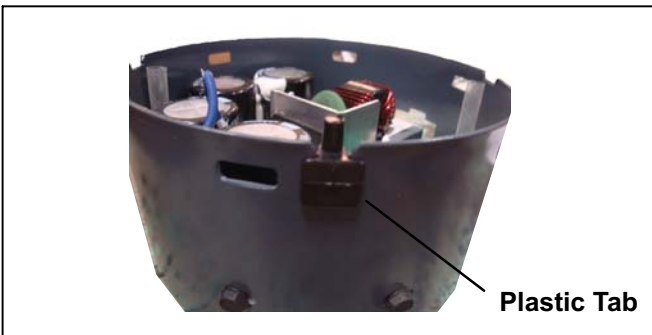

Figure 6. Plastic Tab
- 3 - Insert the provided plastic tab into the slot on the perimeter of the open end of the control module. Position the tab so that the flat side faces the outside of the module. See figure 6.